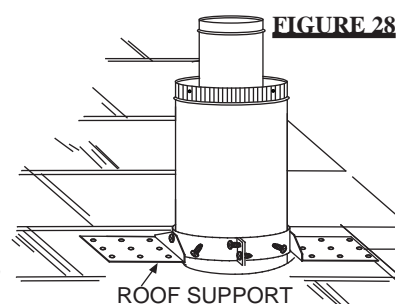

FIGURE 28
1. Fasten the roof support to the roof using the screws provided. The roof support is optional. In this case the venting is to be adequately supported using either an alternate method suitable to the authority having jurisdiction or the optional roof support. Figure 28.